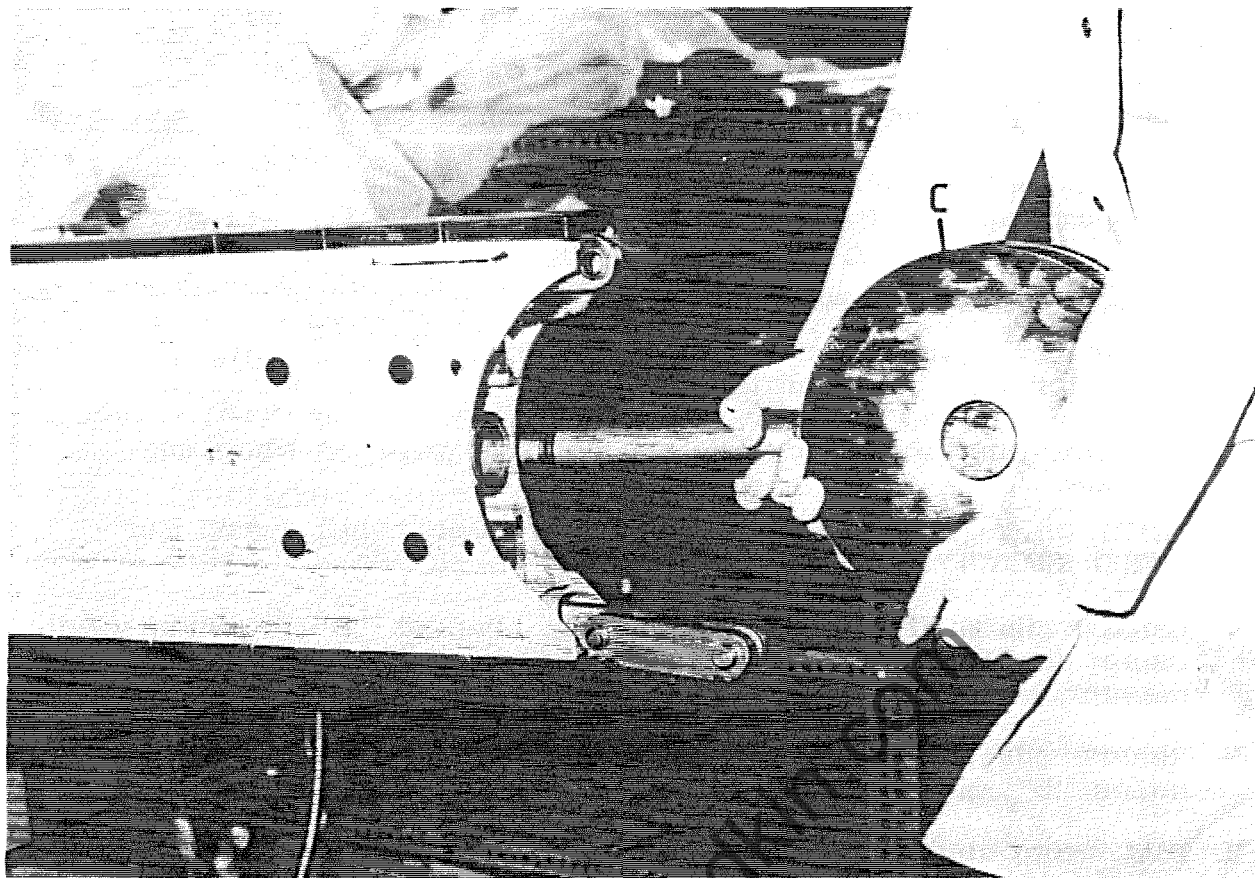

FIG. 9
- 2 Fit front idle sprocket "C" FIG.9.